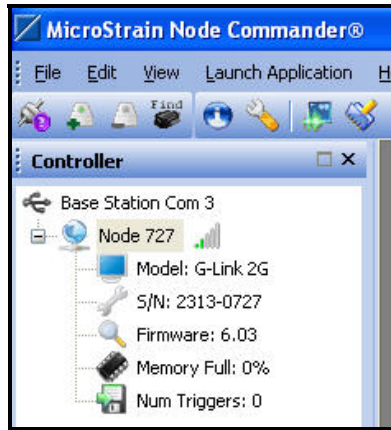

Figure 2 – Load Node Information
- The ‘tree’ underneath the node will populate as shown in *Figure 2*. Note that the Num Triggers is 0 (zero). This indicates that erasure was successful and that no datalogging sessions exist on the G-Link®.